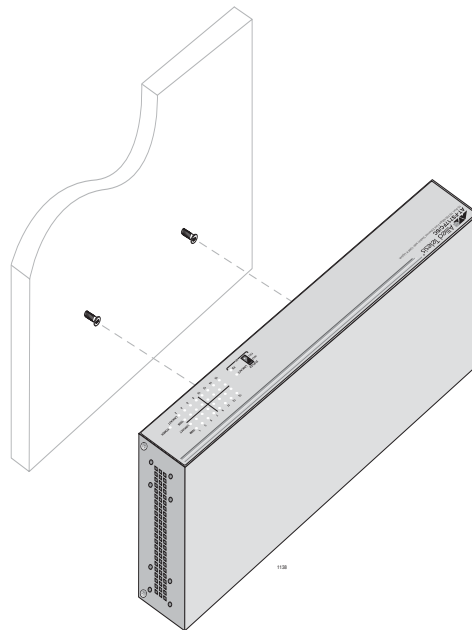

Figure 10. Aligning an AT-FS717FC/SC for Wallmount Installation
6. Align the switch horizontally, as illustrated in Figure 10.